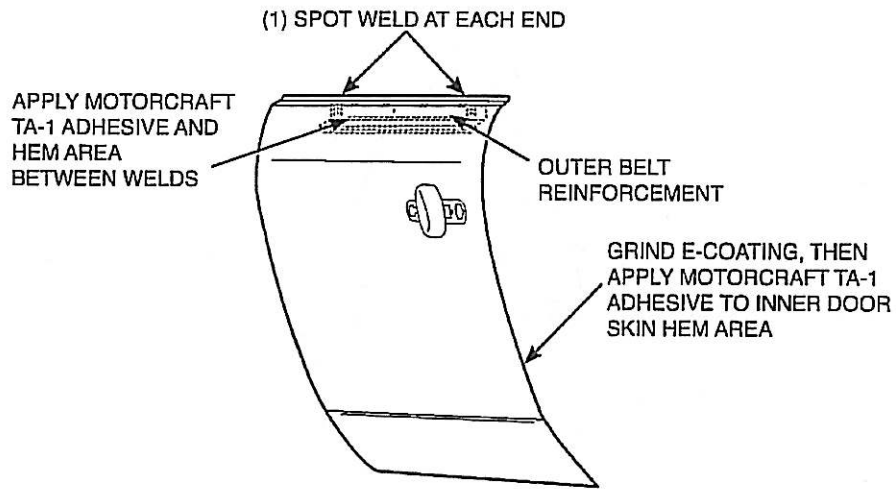

FIGURE 2
10. Prepare the skin and door frame joint areas by grinding clean all mating surfaces, including the inner hem, outer belt reinforcement, intrusion beam, and flutter beam areas (refer to Figures 2 and 3).
11. Apply Motorcraft TA-1 adhesive to the following areas: new door skin hem, intrusion beam to door skin, flutter beam to door skin, and the outer belt reinforcement to door skin (refer to Figures 2 and 3).
12. Spot weld the outer belt reinforcement to the doorskin as shown in Figure 2.